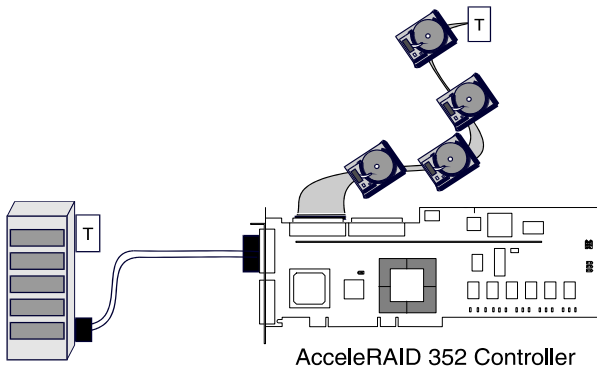

Figure 6. Connecting Internal and External Drives
6. Connect a wide, high-density, 68-pin SCSI ribbon cable to the internal SCSI connector on the AcceleRAID 352 controller and connect the other cable connectors to any SCSI devices as required (see Figure 6). Termination is automatic on the AcceleRAID 352.
7. Connect an active terminator to the end of the SCSI ribbon cable at the end farthest from the controller (see Figure 6).
8. Connect a cable(s), with the 68 pin VHDCI, to either one or both of the external connector(s) on the AcceleRAID 352 controller. Connect the other end of the cable connector, to other devices or to a SAF-TE external drive cabinet, as required (see Figure 6).